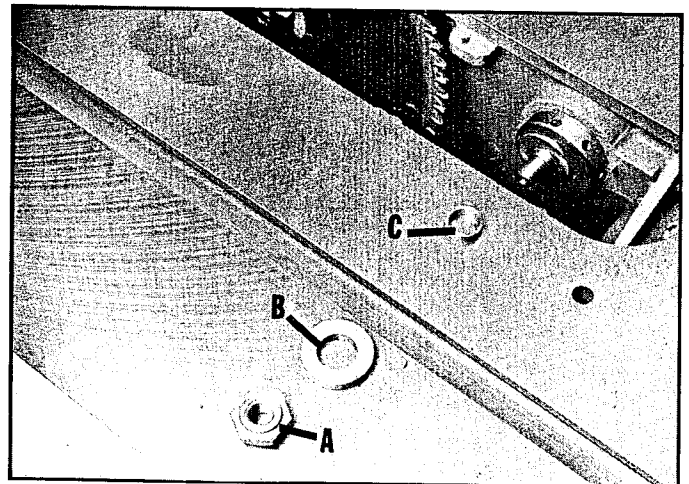

Fig. 10
1. Remove arbor nut (A), blade flange (B) and bushing (C) Fig. 10 from the arbor shaft. The bushing (C) Fig. 10, is required to allow the use of scoring blades with one-inch diameter arbor holes. If scoring blades with 20mm diameter arbor holes are used, the bushing is not required.